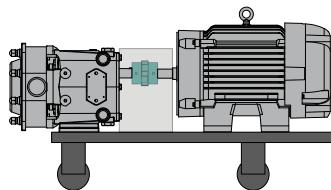
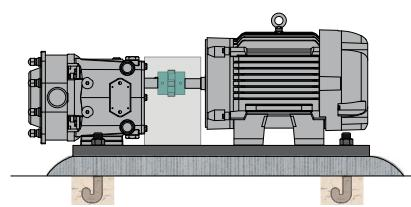

Figure 3 - Portable Base
Figure 6 - Permanent Installation on Foundation
In a typical installation configuration, the pump and drive unit are mounted on a common base plate. The unit can be installed in any of the arrangements shown in Figure 3 through Figure 6.
**NOTE:** *When installing a unit as shown in Figure 6, level the unit before installing the bolts.*
The shaded area in Figure 3 through Figure 6 indicates the guard location.